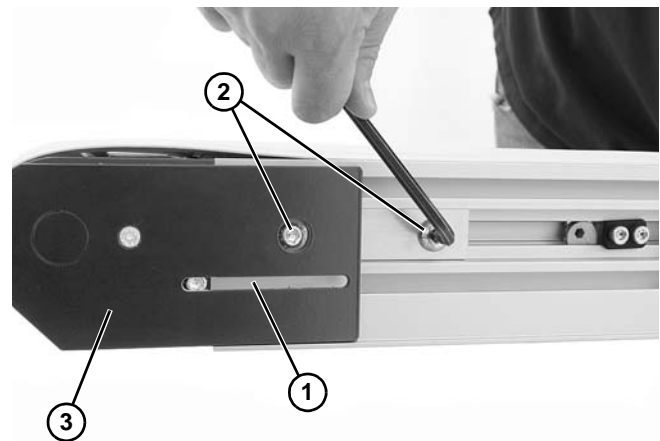

Figure 9
2. On tension end of the conveyor, identified by the pinion access slot (Figure 9, item 1), loosen the two tail clamp bolts (Figure 9, item 2) on both sides of the conveyor, and push head plate assembly (Figure 9, item 3) inward.